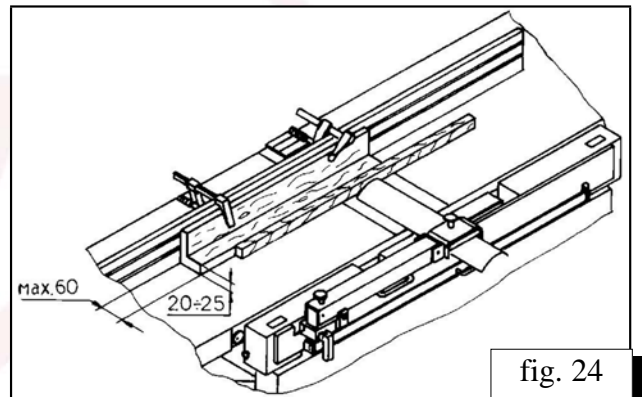

fig. 24
- For processing of narrow pieces you can use your own additional rest, which is fixed on the supporting ruler (e.g. by means of two binding clips) (fig. 24).